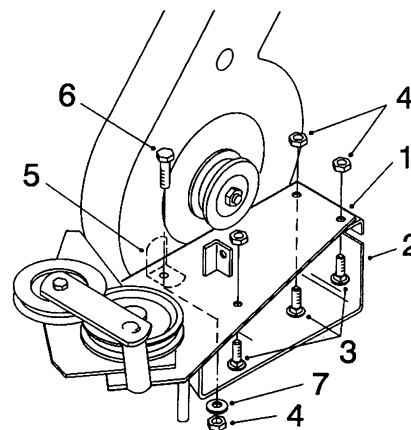

Figure 4
1. Install the blower mounting plate assembly to the blower housing using three $\frac{5}{16}$ " x $\frac{3}{4}$ " carriage bolts and $\frac{5}{16}$ " hex-head flange nuts (Fig. 4).
2. Install the L-shaped support bracket inside the blower housing using a $\frac{5}{16}$ " x 1" hex-head bolt, $\frac{5}{16}$ " flat washer and $\frac{5}{16}$ " hex-head flange nut (Fig. 4). Do not tighten the flange nut.
3. Pull the L-shaped support bracket (Fig. 4) up tight against the inside wall of the blower housing and tighten the flange nut.